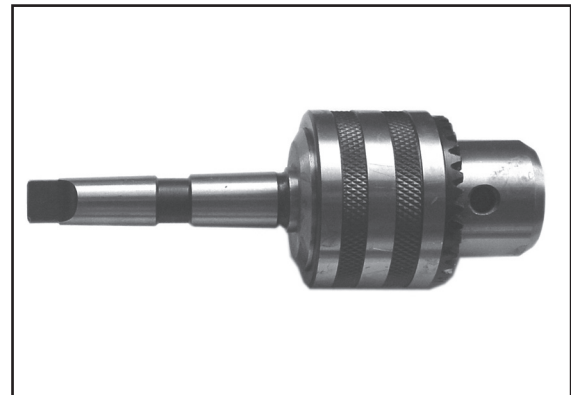

Figure 11
2. Insert the arbor (A-Fig. 11) into the chuck (B-Fig. 11) as shown.